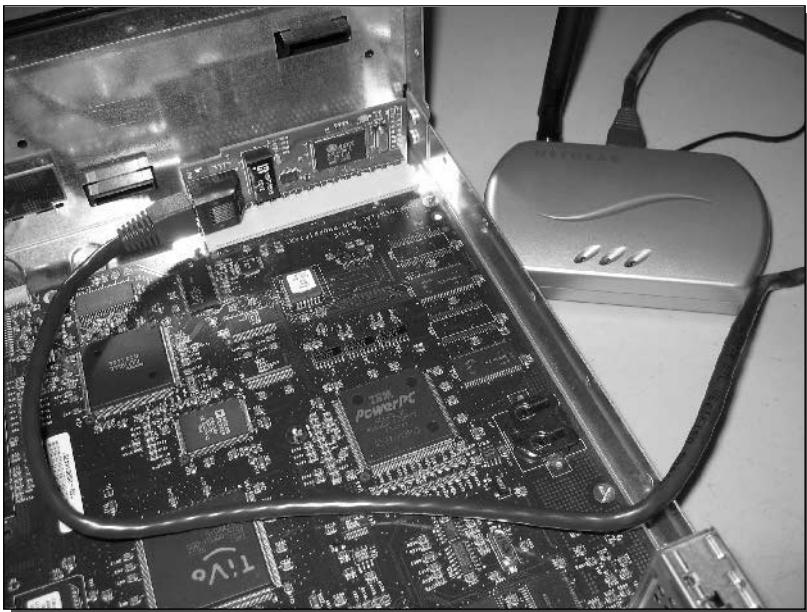

FIGURE 12-2: Series 1 TiVo with installed TurboNet adapter and Ethernet-to-wireless bridge.
4. Install an Ethernet-to-wireless bridge (see Figure 12-2).